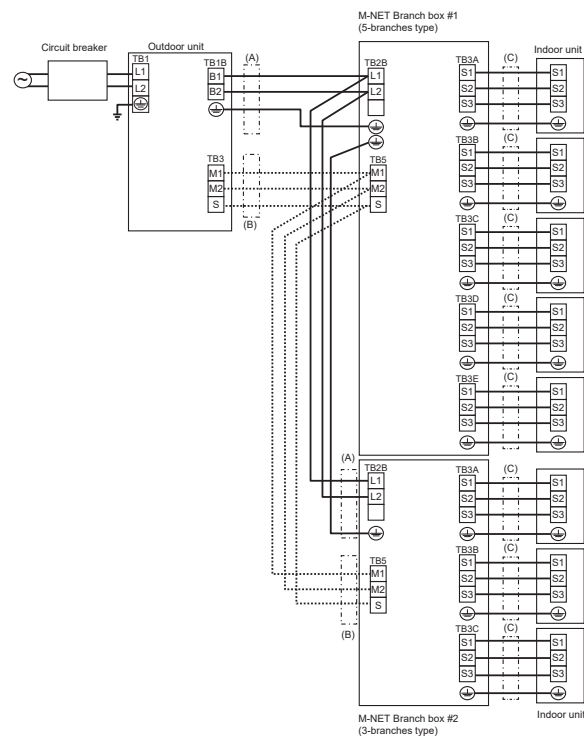

Fig. 8-9
- 4) Firmly connect each wire to the appropriate terminal block. (Fig. 8-9)
### 8.4. External wiring procedure (Fig. 8-9)